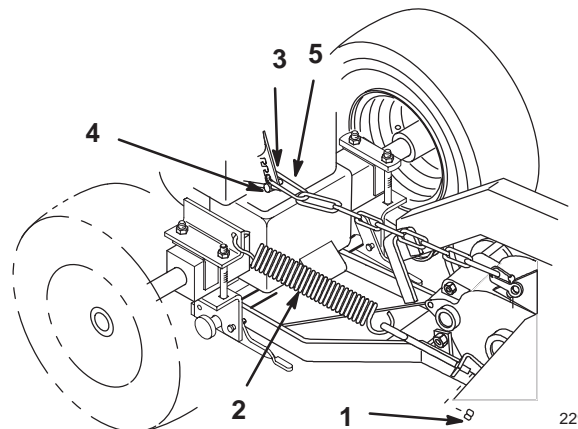

Figure 24
9. Loosen lock nut on eye bolt and unhook lift assist spring from tractor (Fig. 24).
11. Remove hairpin cotter and trunnion from lift arm and unhook long link of lift chain from lift arm (Fig. 24). Install trunnion and hairpin cotter (Fig. 24).